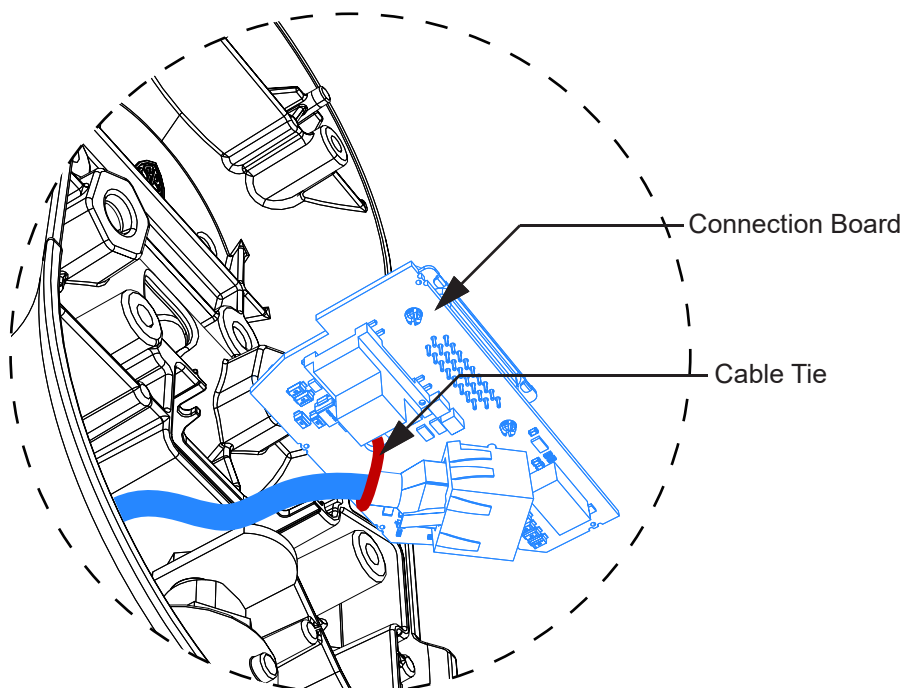

Figure 3-34 Cable Connection
Step 7 Secure the plug to the connection board with a cable tie see (**Figure 3-34**).